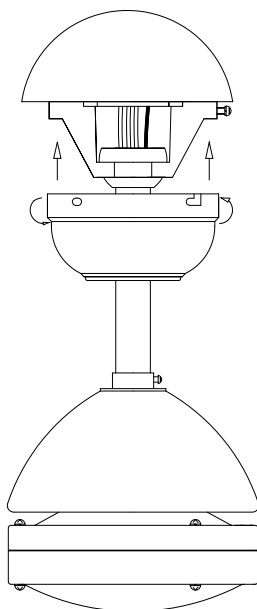

Fig. 8
**Step 3.** Install the remaining two mounting screws into the holes in the canopy and tighten firmly. (Fig. 8)